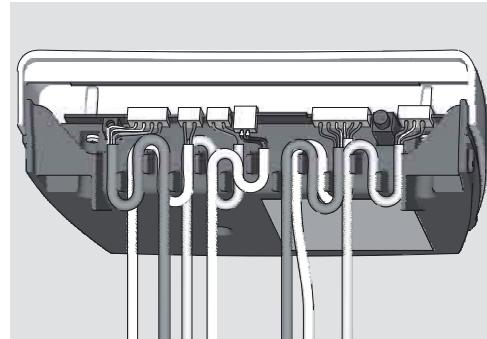
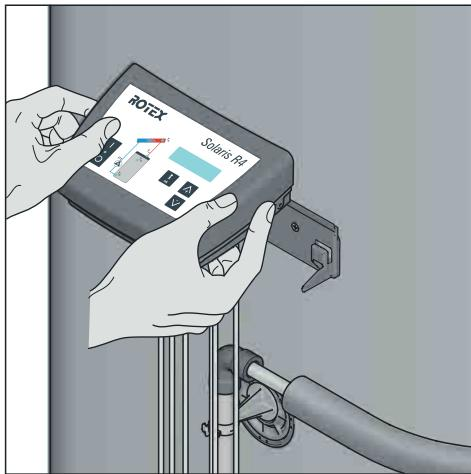

Fig. 4-27 Basic wiring: FlowSensor, storage tank, return, solar panel sensor, pumps and mains wiring
Fig. 4-28 Work step 5
– Make sure that the cable loops (as shown in fig. 4-27 and fig. 4-28) point downwards.